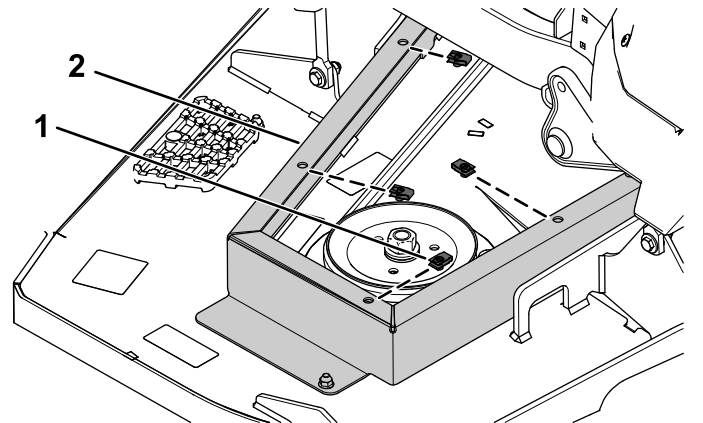

Figure 8
3. Install 4 clips on to the left pulley-mount guard (Figure 8).